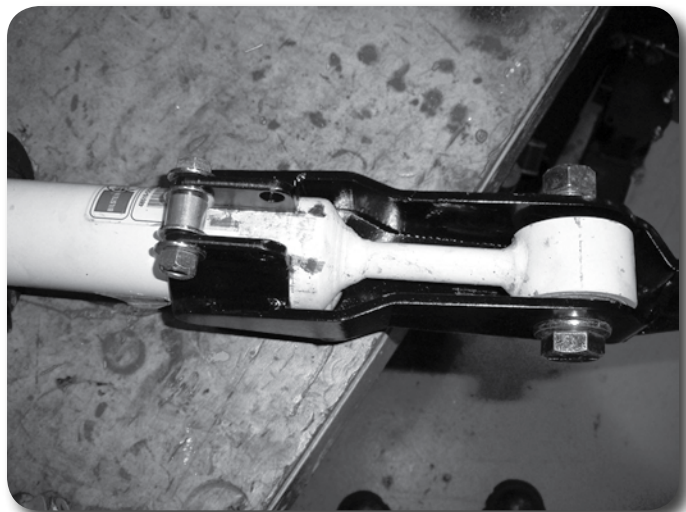

Figure 38 - Shown Off Truck
50. Locate the new lower strut extension assemblies. Install the extension on the factory strut so the pinch tabs are toward the inside of the vehicle. Slide the extension over the strut body **Figure 38** to align the mount holes with the factory strut bushing and fasten with a 5/8" x 3" bolt, nut and washers. Torque bolt to 125 ft-lbs.